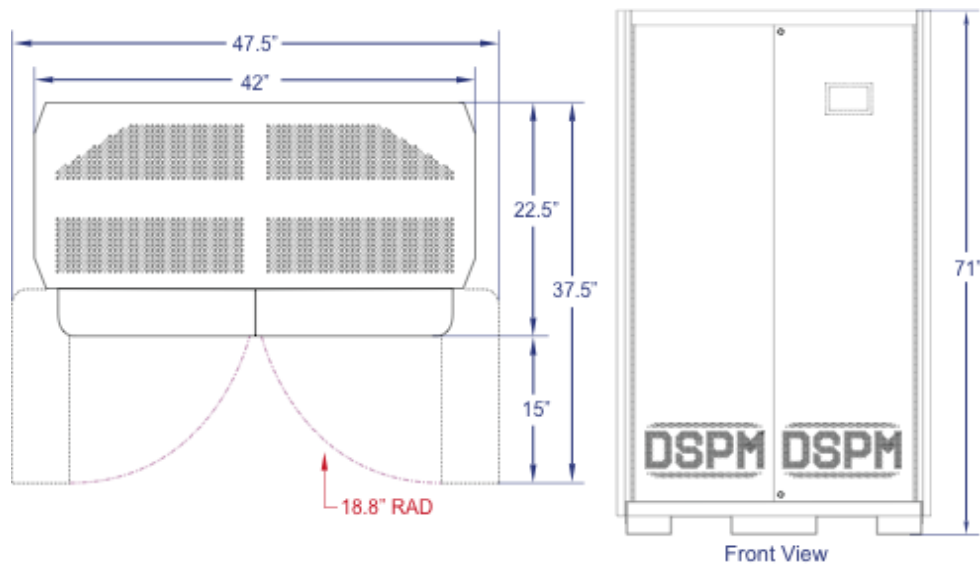

Figure 6
**Note:** Per code requirements, leave 3" on each side of the cabinet (including the back) and 3 foot clearance in front (Refer to Figure 6).